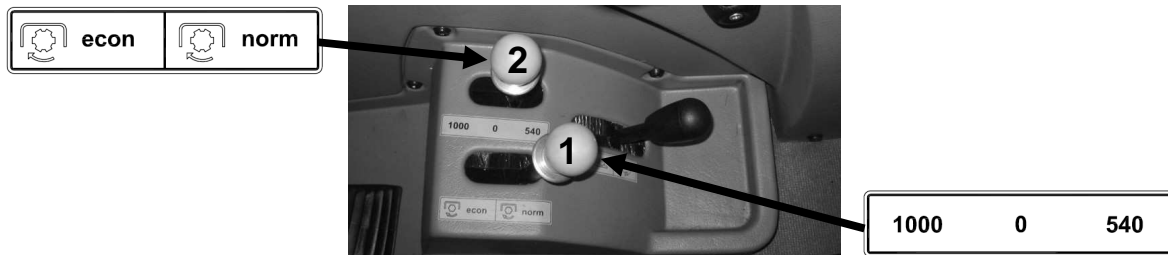

Figure 4-28 Lever connecting appropriate PTO rotation speed: 540/1000 or 540E/1000E rpm.
- using lever 1 (Figure 4-28) select the required PTO rotation speed range - "NORM" (540/1000 rpm) or "ECON" (540E/1000E rpm).
- using lever 2 (Figure 4-28) select the required PTO rotation speed from chosen speed range
ATTENTION: Central setting of lever 2 (Figure 4-28) is the neutral position. Setting switch in this position disconnects PTO drive.